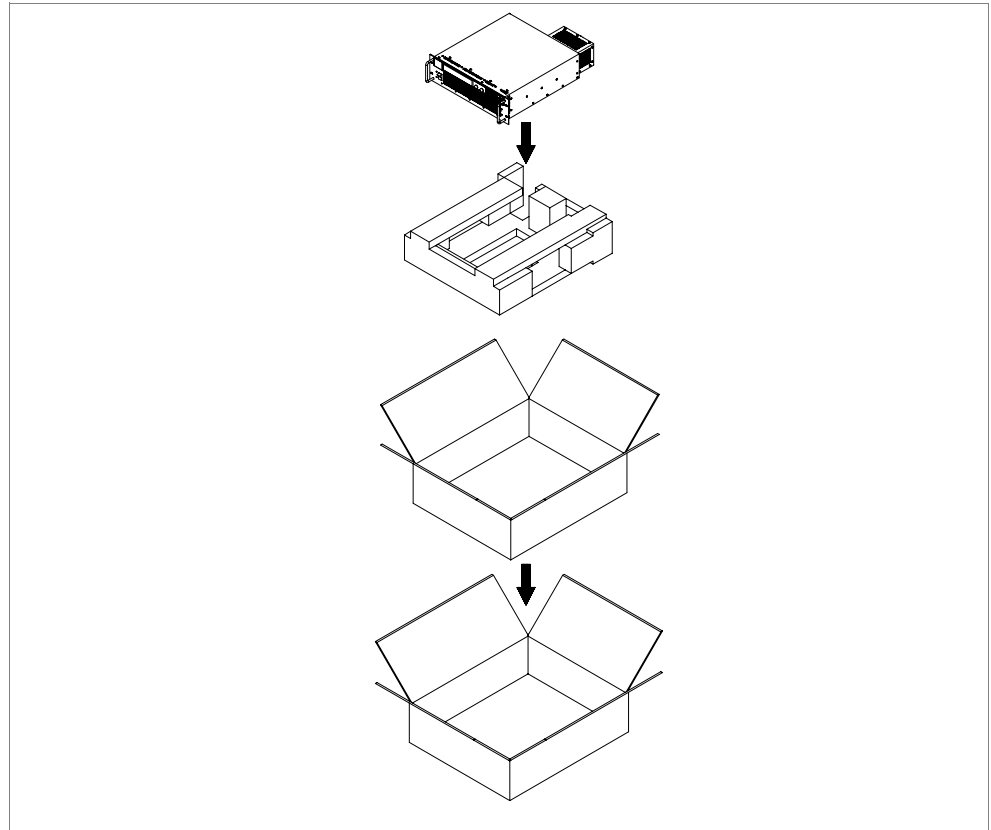

Figure 2.2 Unpacking the Power Supply
1. Open the box containing the unit. See Figure 2.2.